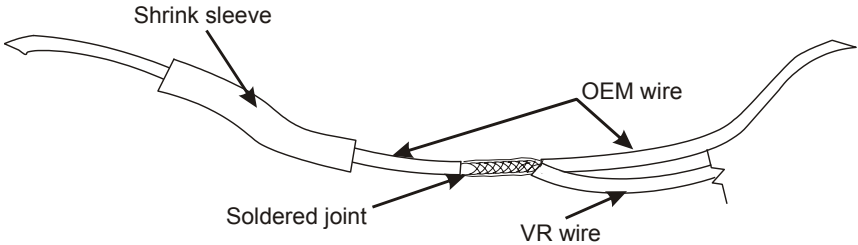

Figure 3
- Solder and seal the white throttle control box wire to the blue wire with a white stripe (Figure 3). Reassemble the PCM, rotate it back into place and replace the plastic cover.